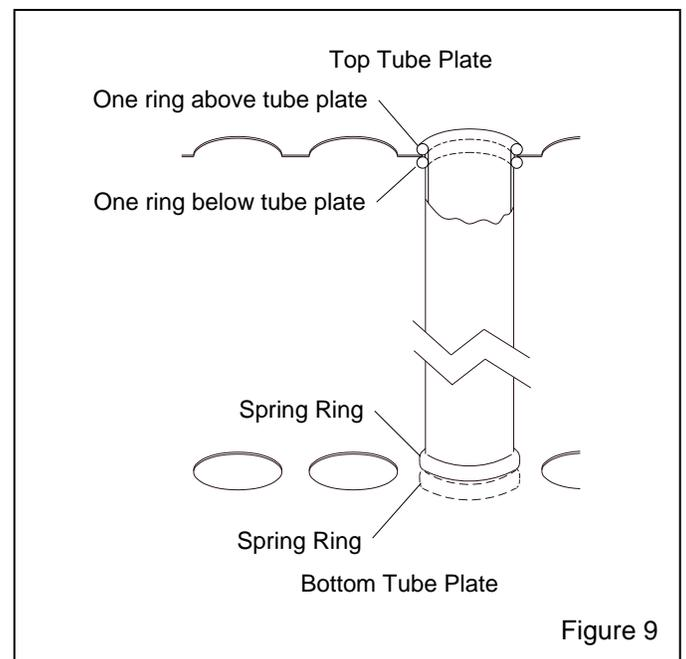

Figure 9
6.2 Filter Tube Replacement, Figure 9
6.2.1 Replace damaged filters immediately. Remove the old filters by pulling the spring rings off the bottom and top tube plates. Working from the back to the front, install one filter at a time. To install new filters, form the end of the spring ringed tubular filter into a shallow "c" shape, push the filter far enough into the hole of the top plate to allow one spring ring to snap into place above the tube plate and the other to snap into place below it. Refer to the illustration in Figure 9.